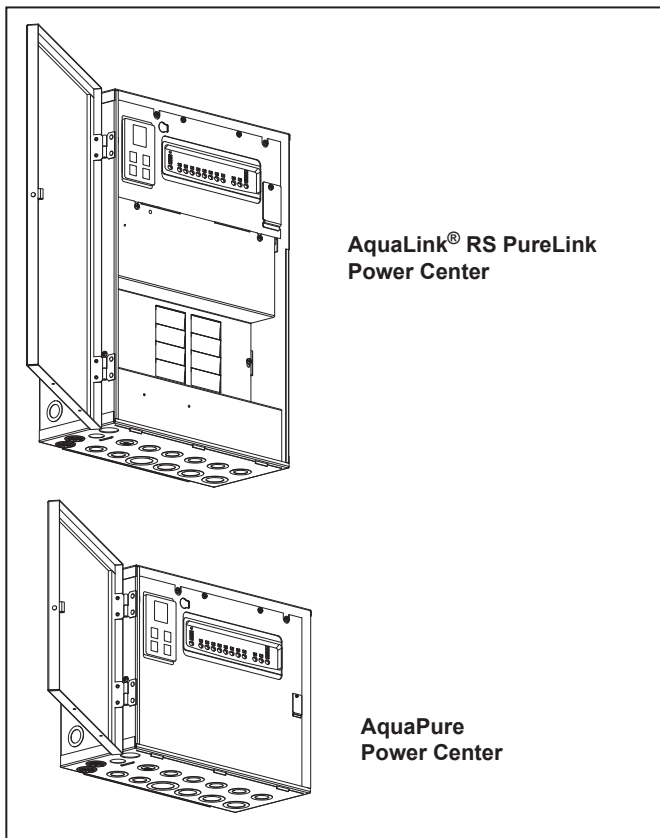

Figure 2. AquaLink RS PureLink and AquaPure Power Center
2. Open the door to the power center and access the chlorine generator power interface board. See Figure 2.